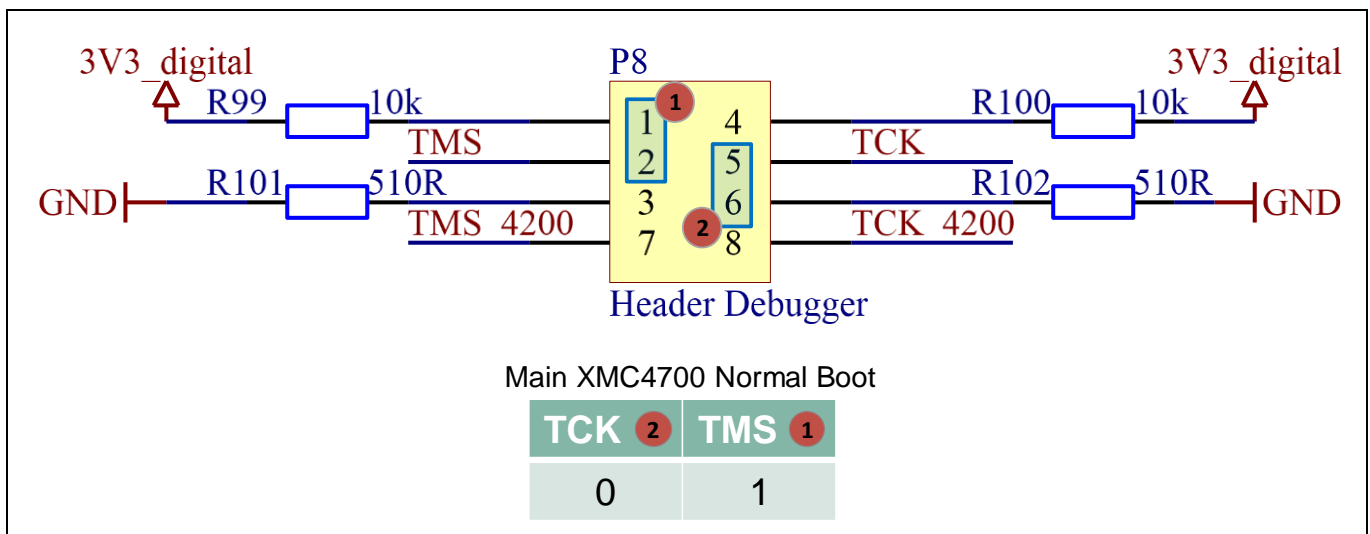

Figure 4 P8 header configuration for using battery or external power supply
- Configure the P8 header as shown in Figure 4 (1, 2 connected and 5, 6 connected).